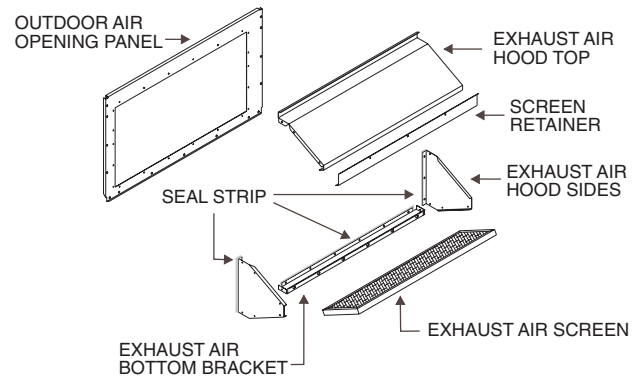

Fig. 25 — Exhaust Air Hood Assembly
- Remove the EconoMi\$er hood from its packaging. Remove shipping brackets holding hood package to EconoMi\$er. Locate the outdoor-air opening panel. See Fig. 25. Remove hood assembly shipping brackets located on the back (sloped) side of the EconoMi\$er assembly. These brackets are used to retain the hood assembly during shipping only.
3. Install the $\frac{1}{8} \times \frac{3}{4}$ -in. seal strip on the exhaust air hood side panels and the bottom bracket. Assemble the exhaust air hood to the outdoor-air opening panel as shown in Fig. 25, using the screws provided. *Do not attach hood assembly to unit at this time.*